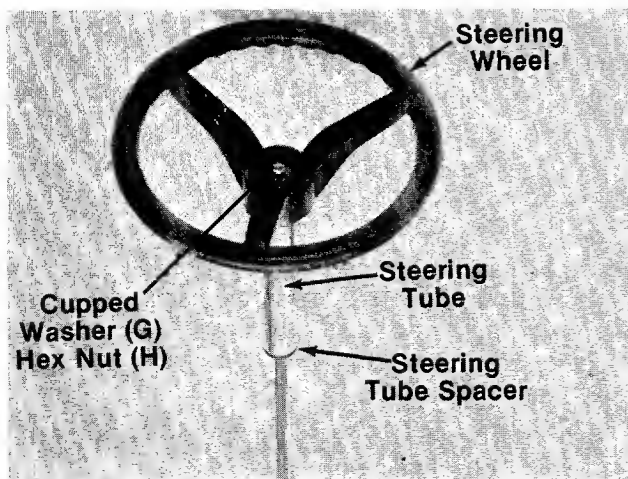

**FIGURE 4.**
2. Press the large flat washer (J) (1-5/8" diameter) into the open side of the black plastic steering tube spacer (I). See figure 4.
3. Press the steering tube spacer into one end of the chrome-plated steering tube (R). See figure 4. Make certain spacer is seated securely into tube.